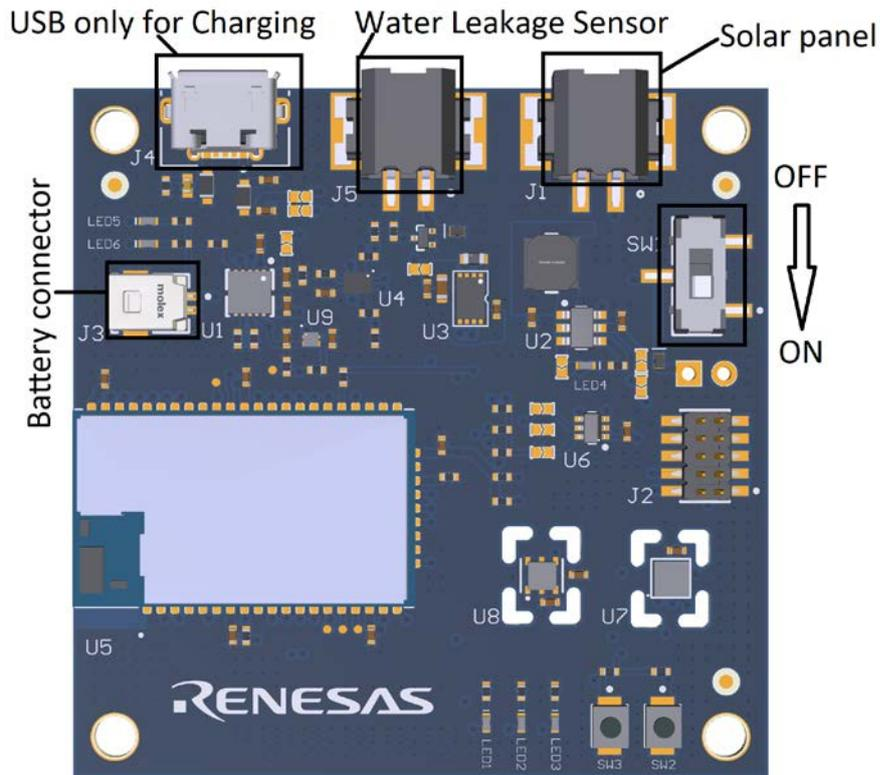

Figure 2: PCB Top View with the default jumper configuration.
3. Please check the main connectors that are shown in Figure 2
5. Move the Power Supply Switch to ON Position (Figure 2)